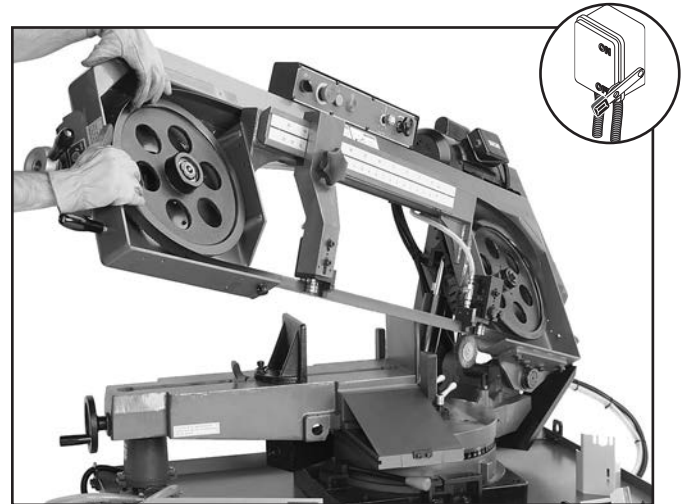

Figure 42. Installing the blade.
6. Install the new blade through both blade guide bearings, as shown in **Figure 42**, and around the bottom wheel.